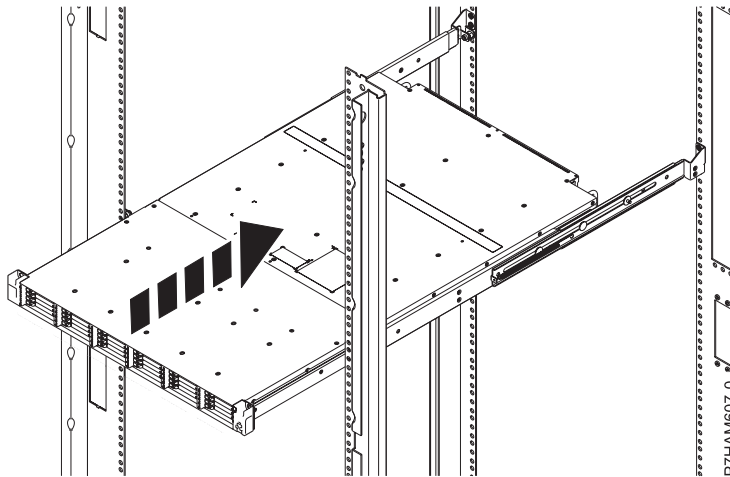

Figure 15. Sliding the disk drive enclosure into the rack
- d. When the chassis bracket guides are firmly seated on both sides of the enclosure, slide the enclosure gently into the rack cabinet, as shown in Figure 15.